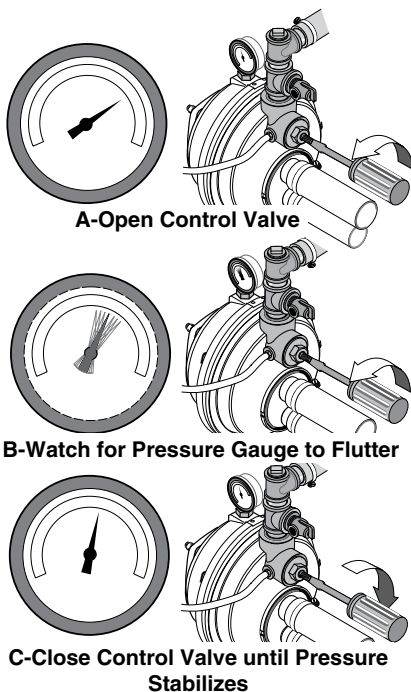

Figure 14: Set Control Valve
5. When pressure has built up and stabilized at about 50 PSI, slowly open the control valve (see Figure 14) and let the pressure drop until the pressure gauge needle starts to flutter. When the needle flutters, close the valve just enough to stop the flutter (see Figure 14). Your pump is now operating at its most efficient point.